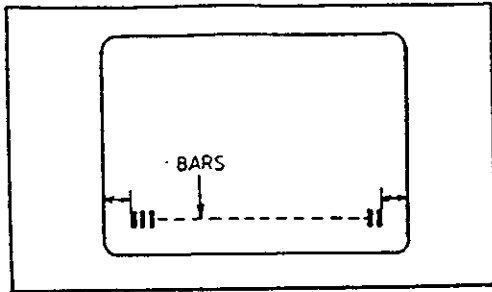

Fig. 1A
4. Adjust VR113 so that the right and left side of Bars may be the same as shown in Fig.1A.